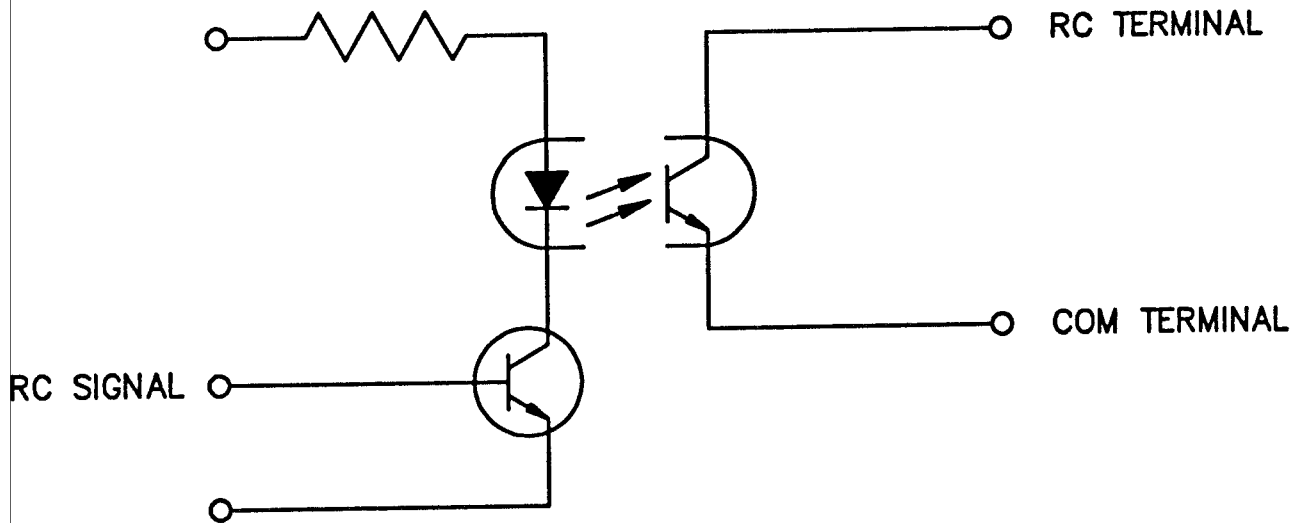

FIGURE 3 RECOMMENDED REMOTE ON/OFF INPUT CIRCUIT TO THE RC TERMINAL OF THE FPD 100-48 POWER SUPPLY
The following input signals applied to the RC terminal, control the output voltage (see Figure 3).
3. The input circuit to the RC terminal should be designed with a photo coupler or relay (see Figure 3)